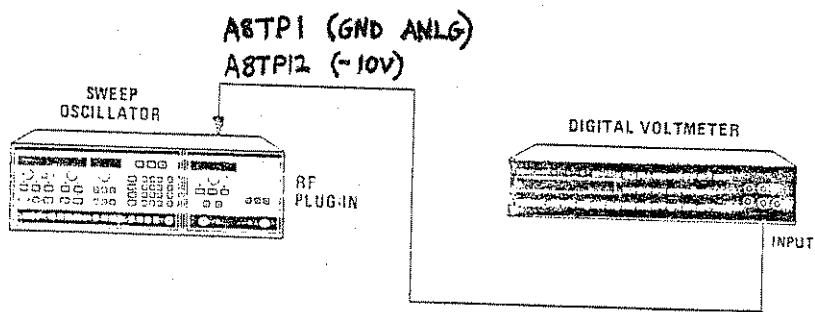

Figure 5-2 -10 Volt Reference Test Setup
1. Set up the equipment as shown in Figure 5-2. Connect the DVM to ABTP12 (-10V) with reference to ABTP1 (GND ANLG).